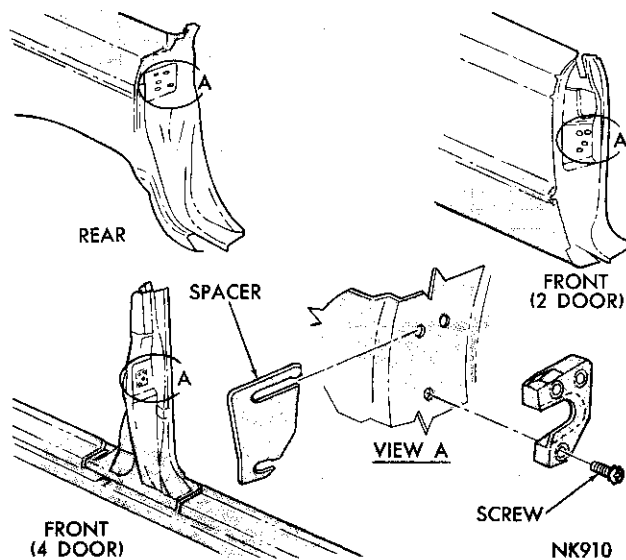
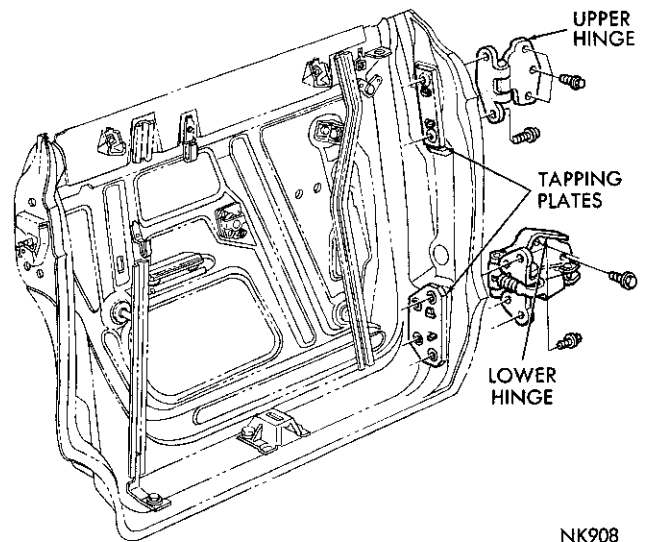

Fig. 52—Door Lock Rotor and Striker
Fig. 53—Rear Door Hinge Attachment
(1) With the door in a full open position (trim panel and watershield removed) scribe a line around the upper and lower hinge straps.
(2) Place a wooden block on the lifting plate of a floor jack and position it under the outer end of the door.
(3) Loosen the upper door hinge attaching bolts only.
(4) Observe the scribe marks and raise or lower the door to the desired position. (Raising the outer end of the door moves the upper part of the door forward when in the closed position.)
(5) Tighten the attaching bolts.
(6) Loosen the lower door hinge attaching bolts and raise or lower the door to the desired position. (Lowering the end of the door moves the lower part of the door forward when in the closed position.)
(7) Tighten the attaching bolts.
(8) Open and close the door several times and check the clearance around all door edges.
(9) Repeat steps 4, 5, 6 and 7 until the door is centered in the door opening.
(10) Adjust the door lock striker (Fig. 52). The door should rise slightly as it closes on the striker with the door handle release button held in.
(11) Install the watershield and trim panel.
(1) With the rear door fully closed and the front door open, scribe the location of both the upper and lower hinges on the frame of the door (Fig. 53).
(2) With the door slightly ajar, position a padded floor jack under the center of the door.
(3) Loosen the hinge to door attaching bolts.
(4) Observe the scribe marks and raise or lower the door to the desired position.
(5) Tighten the attaching bolts. Close the door and check alignment in the door opening.
(6) Adjust the door lock striker (Fig. 52). The door should rise slightly as the door closes on the striker with the door handle release button held in.
The door strikers (Fig. 52) are attached to the pil-